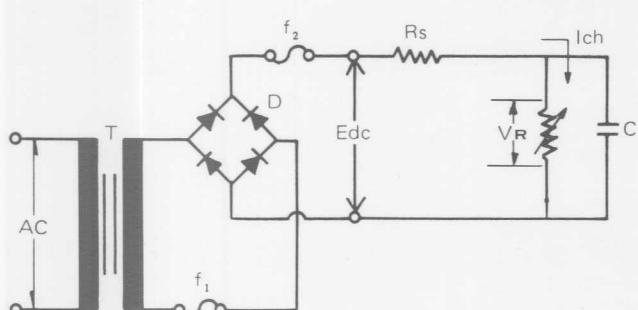
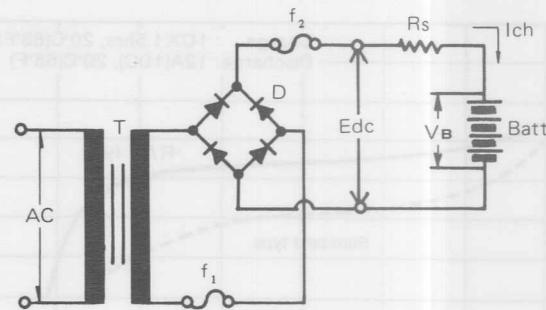

Fig. 22 Simulated standard charging circuit
Fig. 23 Standard charging circuit
An example of the simulated standard charging circuit is shown in Fig. 22. The following factors must be considered in the design of the charger.
- (A) National Ni-Cd cells are charged using constant current (or semi-constant current chargers (Fig. 23). The rate of charge is dependent on the size and type of cell. Standard cells, sub C and smaller, can be charged at rates from C/3 ~ C/4 to C/20. (rapid charging of "R" type cells is covered in paragraph 1.7.3.)
- (B) The secondary voltage of the transformer should be more than two or three times the nominal voltage of the battery. Note that the secondary side voltage is the voltage which passes through an artificial circuit which uses resistor and a capacitor instead of a cell, as shown in Fig. 22. [ $V_B$  (in Fig. 23) =  $V_R$  (in Fig. 22)]
- (C) The diode used for rectification should have a voltage rating in excess of 100V.
In Fig. 23.